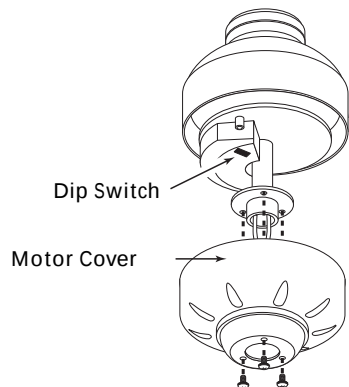

Figure 9a
IMPORTANT: Before using this control, change the factory default DIP switch settings on the Remote and the Fan, to your own unique code. Refer to Figure 9a, 9b and 9c.
2. Through the view hole on top of the motor, locate the dip switch. Refer to Figure 9a.
See Figures 9a, 9b, and 9c. The battery must be removed when changing dip switch settings.